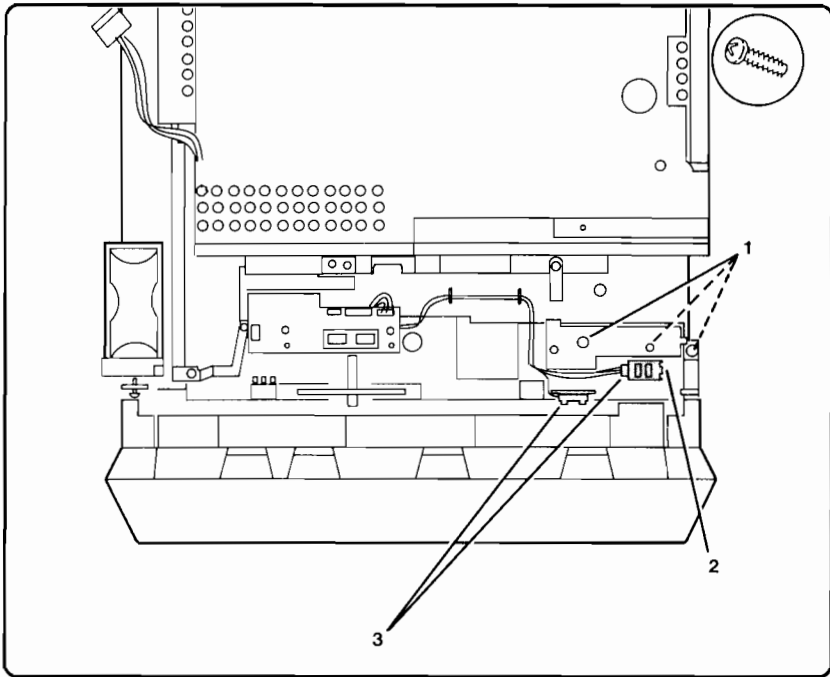

Figure 6-32. EP-L Cartridge & Paper Exit Photosensors Removal
2. Remove the screws (2) securing the Photosensor Bracket (see Figure 6-32, callout 1).
3. Remove the Photosensor Bracket (see Figure 6-32, callout 2).
4. Unplug both photosensor connectors and then remove the faulty photosensor (see Figure 6-32, callout 3).
4. Remove the EP-L Cartridge/Paper Exit Photosensor Assembly (see Figure 6-32).